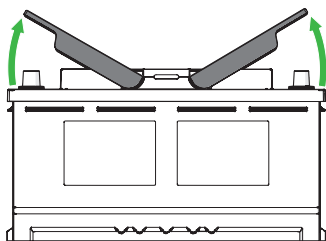

Figure 9. Lift the handles 30°.
- a) Lift the handles 30°. (Figure 9)